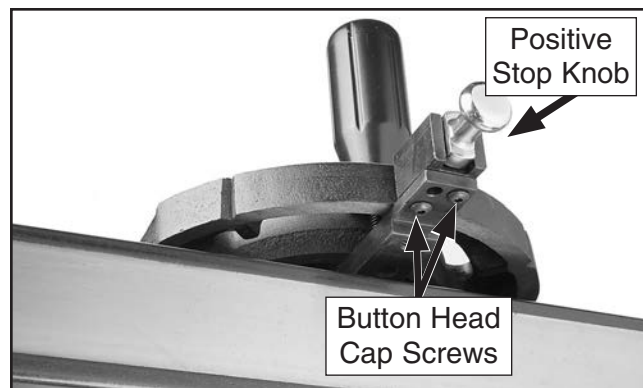

Figure 123. Screws for adjusting miter gauge body.
5. Loosen the button head cap screws on the positive stop knob block (see **Figure 123**), adjust the miter body until it is flush with the square, then tighten the screws.